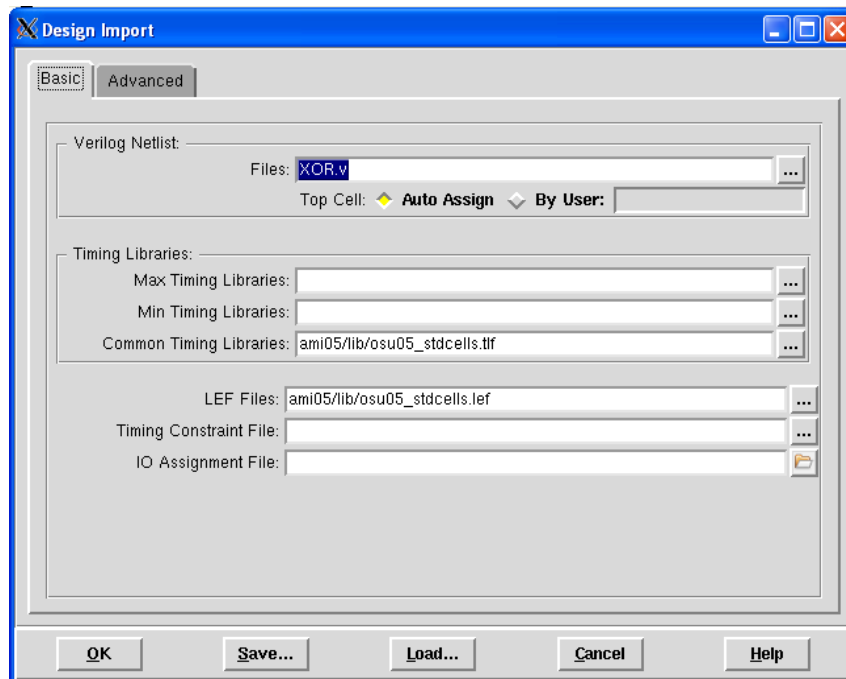

Fig 14: Design Import dialog box with necessary files entered
- Check to see that your **Design Import** dialog box is similar to the image of Fig 14 (filepaths may be different), and then press **OK**.